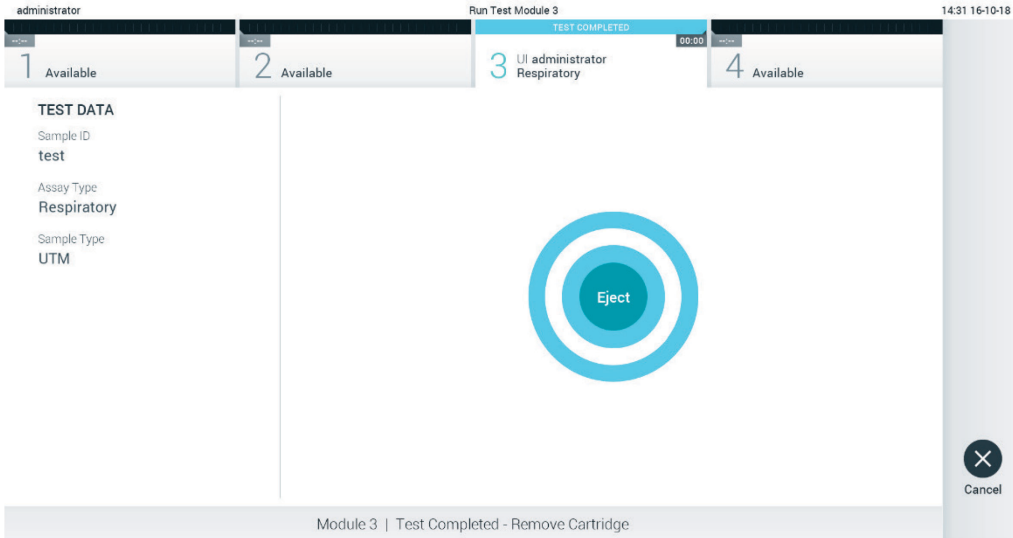

Figure 29. Eject screen display.
10. After the test run is completed, the **Eject** screen will appear (Figure 29, next page). Press  **Eject** on the touchscreen to remove the QIAstat-Dx assay cartridge and dispose of it as biohazardous waste in accordance with all national, state, and local health and safety regulations and laws.